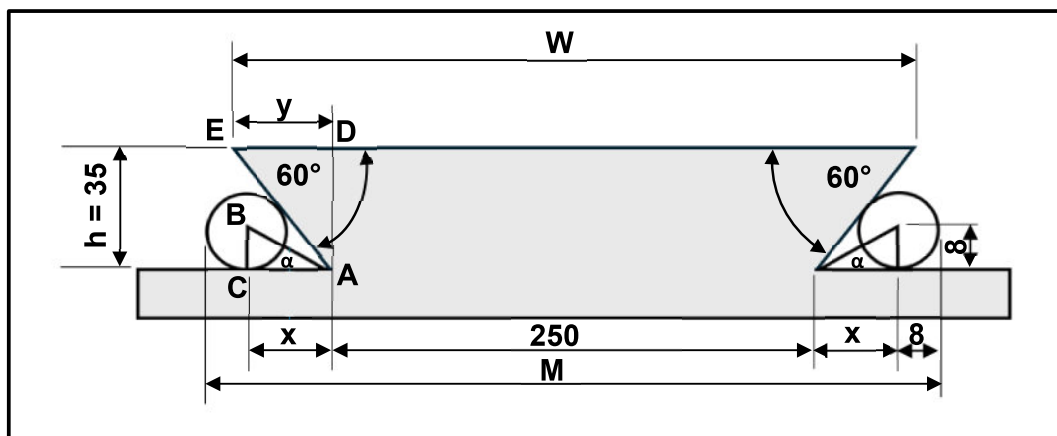

FIGURE 6.2
6.2 FIGURE 6.2 below shows an internal dovetail component.